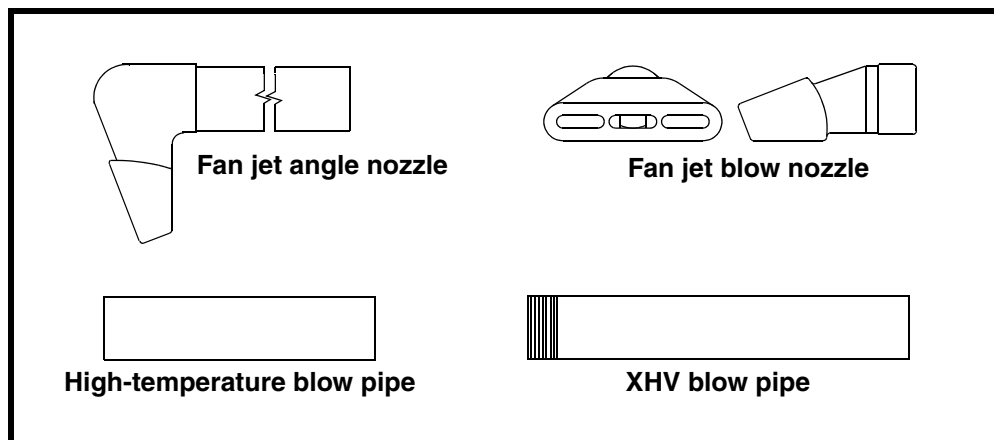

Figure 8. Mounting Nozzles/Pipes (High-Temperature Applications)
3. For internal storage vessel temperatures of 500°F (260°C) or higher, install XHV blow pipe and fan jet angle nozzle, fan jet blow nozzle, or high-temperature blow pipe (Figure 8) on vessel as follows: